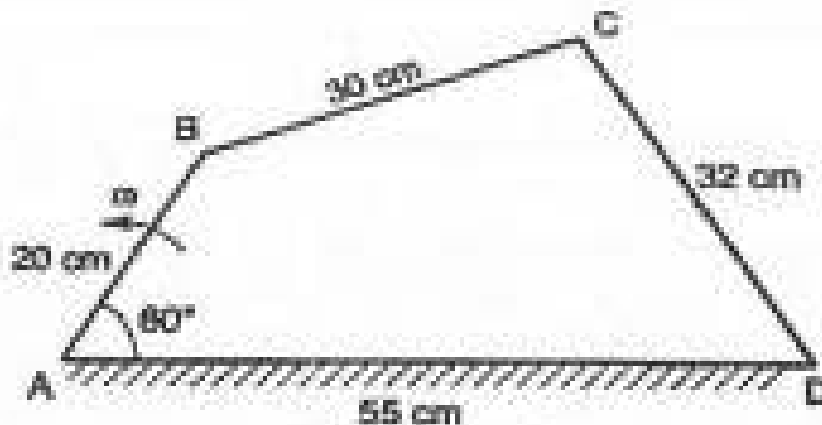

Fig. 1 (Not to scale)
- b) The crank and connecting rod of a reciprocating engine are 100mm and 400mm respectively. The crank is rotating at 200 r.p.m. as shown in fig. 1.c. Find, with the help of Klein's construction, the velocity and acceleration of the piston.
- c) In a four bar chain as shown in Fig. 1 AB = 20cm, BC = 30cm, CD = 32 cm and AD = 55 cm. Crank AB rotates at a uniform speed of 200 rpm in anticlockwise direction. When the crank AB has turned 60° , locate all instantaneous centres and find the Angular velocity of link BC. [6]